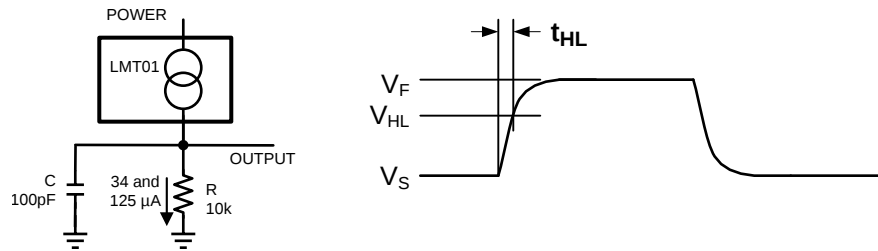

Figure 20. Simple RC Model for Rise and Fall Times
Stray capacitance can be introduced when connecting the LMT01-Q1 through a long wire. This stray capacitance influences the signal rise and fall times. The wire inductance has negligible effect on the AC signal integrity. A simple RC time constant model as shown in Figure 20 can be used to determine the rise and fall times.
- RC as shown in Figure 20